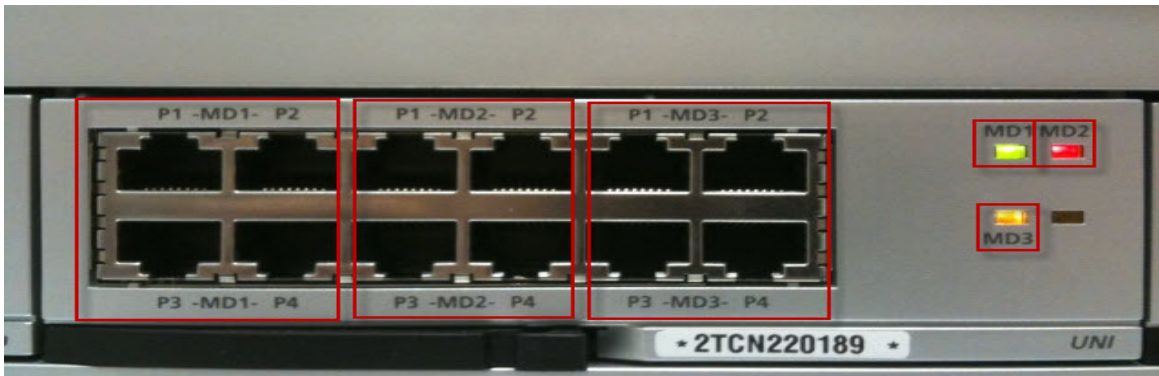

Figure 17 Analog/Digital Interface
2. Based on **Figure 17** below the First analog station will be MD3 P1.